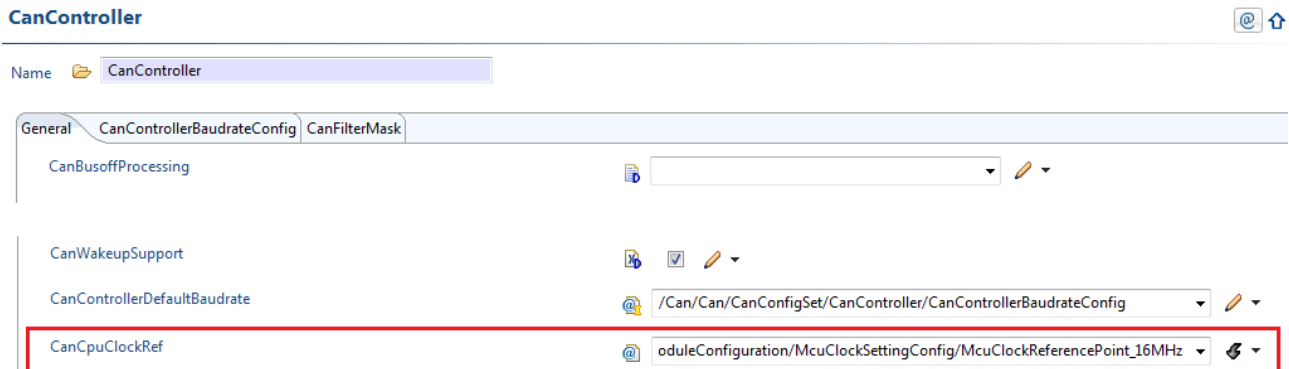

Figure 4.9. Configuring CanCpuClockRef
2. Update the parameter `CanCpuClockRef`. For an example, see Figure 4.9, “Configuring CanCpuClockRef”.